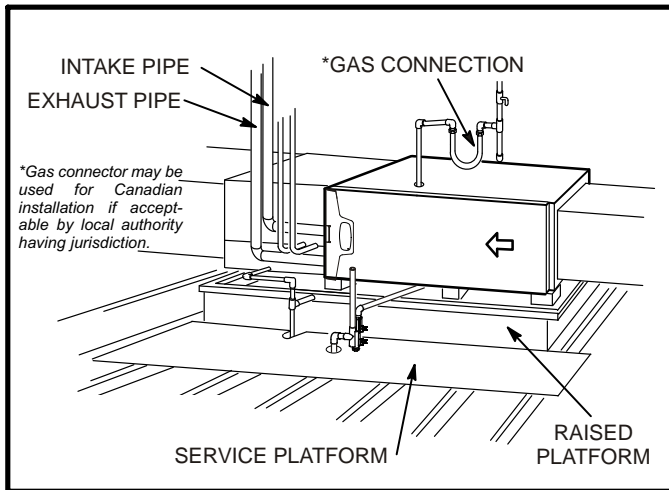

FIGURE 19
This furnace may be installed in either an attic or a crawlspace. Either suspend the furnace from roof rafters or floor joists, as shown in figure 18, or install the furnace on a platform, as shown in figure 19. A horizontal suspension kit (51W10) may be ordered from Lennox or use equivalent. **NOTE - Heavy-gauge sheet metal straps may be used to suspend the unit from roof rafters or ceiling joists. When straps are used to suspend the unit in this way, support must be provided for both the ends. The straps must not interfere with the plenum or exhaust piping installation. Cooling coils and supply and return air plenums must be supported separately.**
- 2 - Construct a raised wooden frame and cover frame with a plywood sheet. If unit is installed above finished space, install an auxiliary drain pan under unit. Set unit in drain pan as shown in figure 19. Leave 8 inches for service clearance below unit for condensate trap.